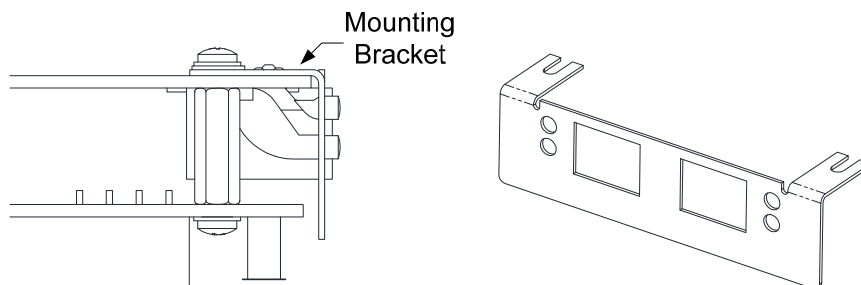

Figure 0-1 CSA EtherCAT Mezzanine Card Mounting Bracket
5. If using a CSA EtherCAT mezzanine card, position the mounting bracket before inserting the EtherCAT mezzanine card. The EtherCAT mezzanine card should then be placed between the standoff and mounting bracket as shown in *Figure 0-1 CSA EtherCAT Mezzanine Card Mounting Bracket*.